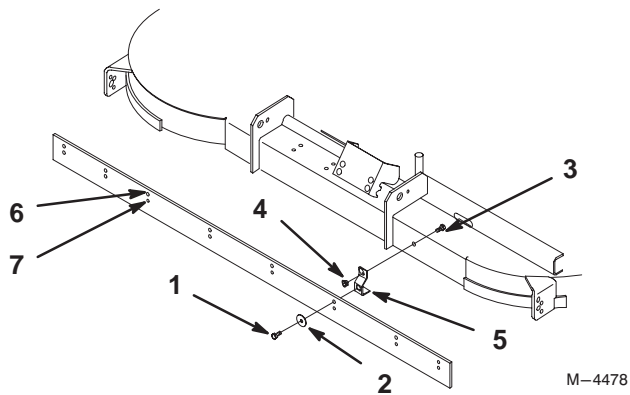
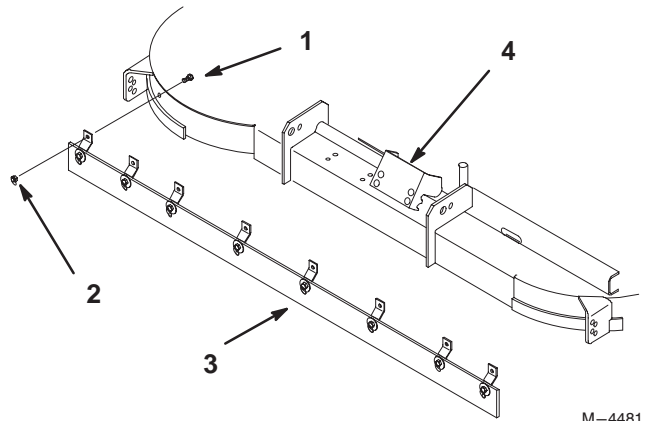

Figure 3
Figure 5
- Attach the mounting brackets (with retainer nuts assembled) into holes in wiper (Fig. 3) using the flat washers and 5/16-18 x 3/4" (19 mm) screws. Place the flat washers on the screws and insert the screws through the wiper into the retainer nuts. Align the brackets vertical to the wiper and tighten the screws (Fig. 5).
- Starting from one end, use the mounting brackets as a template to drill 11/32 inch diameter holes in the deck (Fig. 5).
- Secure in place with the 5/16-18 x 3/4" (19 mm) screws and 5/16-18 lock nuts. Install the screws in the deck with the heads on the inside and nuts to the outside as shown in Fig. 5.